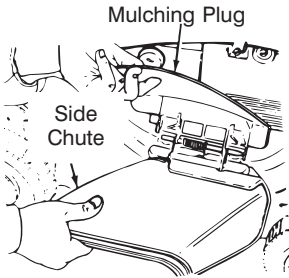

Figure 6
- Lift mulching plug. Slide the two hooks on the side discharge deflector under the hinge pin on the mulching plug assembly. See figure 6. Lower the mulching plug.